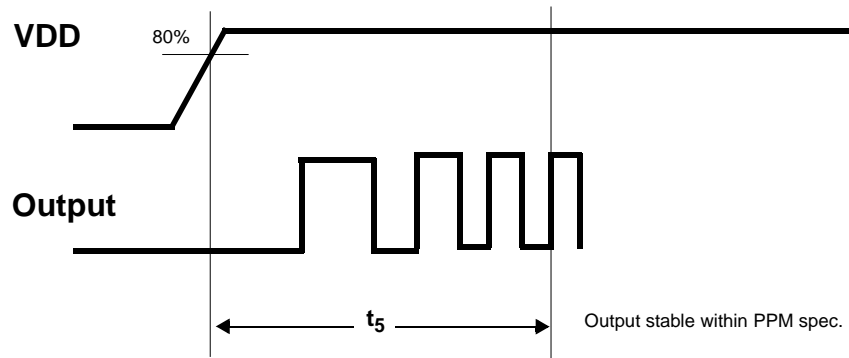

Figure 2. PLL Lock Time
11. Lock Time shown in *Figure 2*.